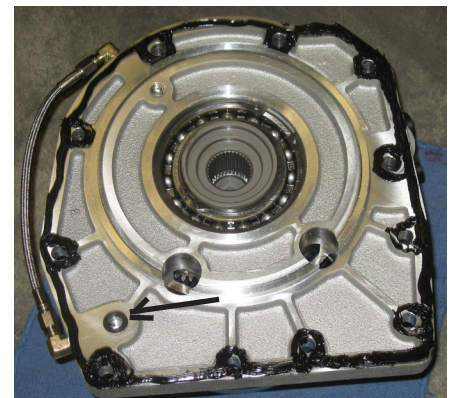

Figure 8: RTV Pattern
3. Reclean the transmission face and the front face of the RubiCrawler using solvent. Apply an 1/8" bead of the supplied Chrysler (ATF+4 compatible) RTV to the RubiCrawler as shown in Figure 8.
4. **Reinstall the O-ring as shown in Figure 8. This is very important for the RubiCrawler and Transmission lubrication circuits.**